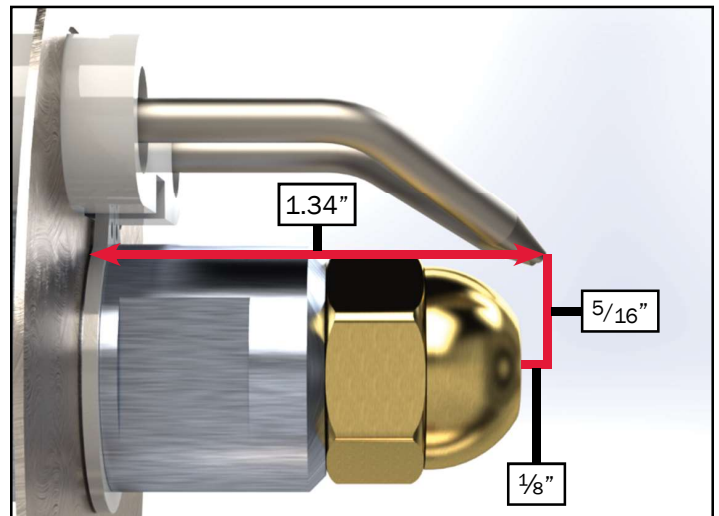

Figure 142
1. Slide the igniter back into its slot located on top the diesel fuel tower until the distance between the face of the fuel nozzle is $\frac{1}{8}$ " and the igniter tips are $\frac{5}{16}$ " from the center of the fuel nozzle. Reference Figure 142.